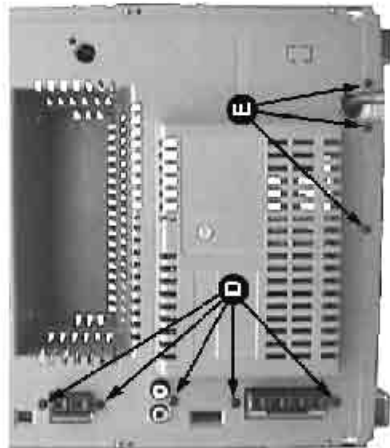

Figure 7
- 1) Loosen 6 screws D mounting the Combi board to the Rear Panel (see 206) as shown in figure 7.